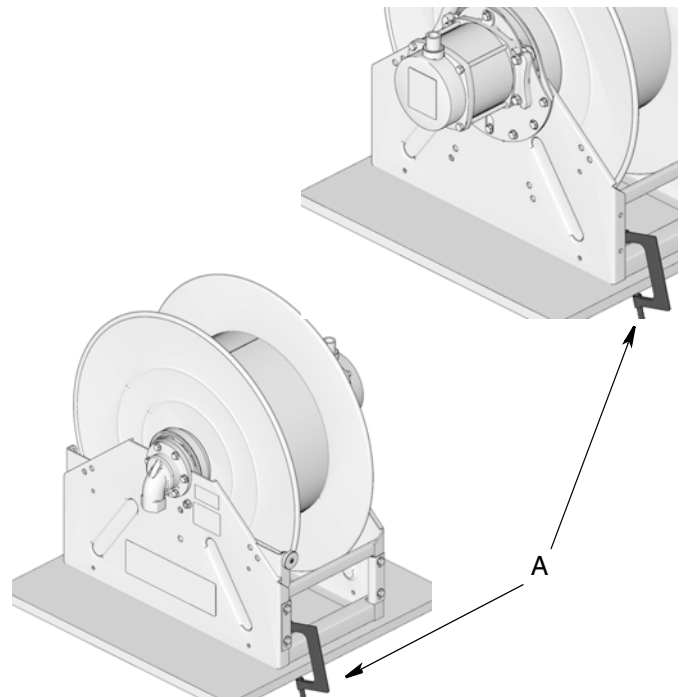

FIG. 14
- b. Use 2, large c-clamps (A) to secure the hose reel to a flat surface (FIG. 14).